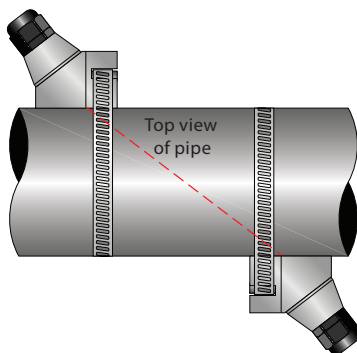

Fig. 21 Z-mount transducer placement
- 7) Place the downstream transducer on the pipe at the calculated transducer spacing. See *Fig. 21*. Using firm hand pressure, slowly move the transducer both towards and away from the upstream transducer while observing signal strength. Clamp the transducer at the position where the highest signal strength is observed. Signal strength of between 5 and 98 is acceptable. The factory default signal strength setting is 5, however there are many application specific conditions that may prevent the signal strength from attaining this level.